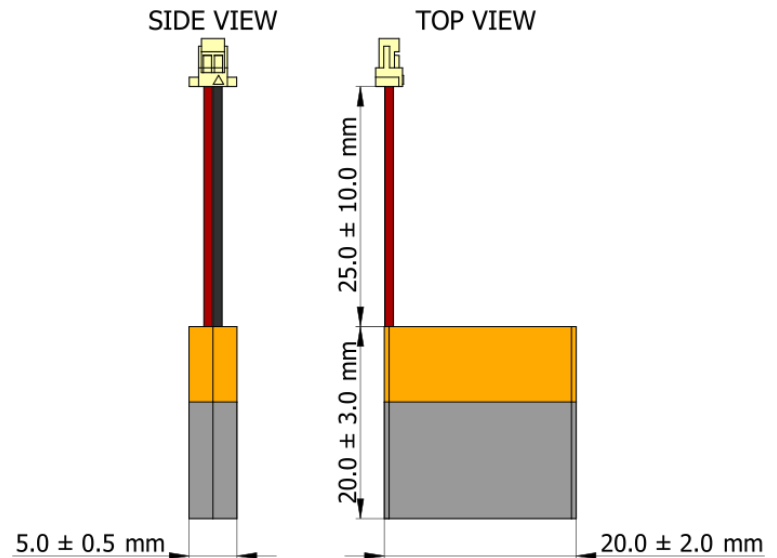

Figure 1: 150mAh Battery Drawing & Dimensions
1.1 Outline Dimensions: See attached drawing, Figure 1, for dimensions.